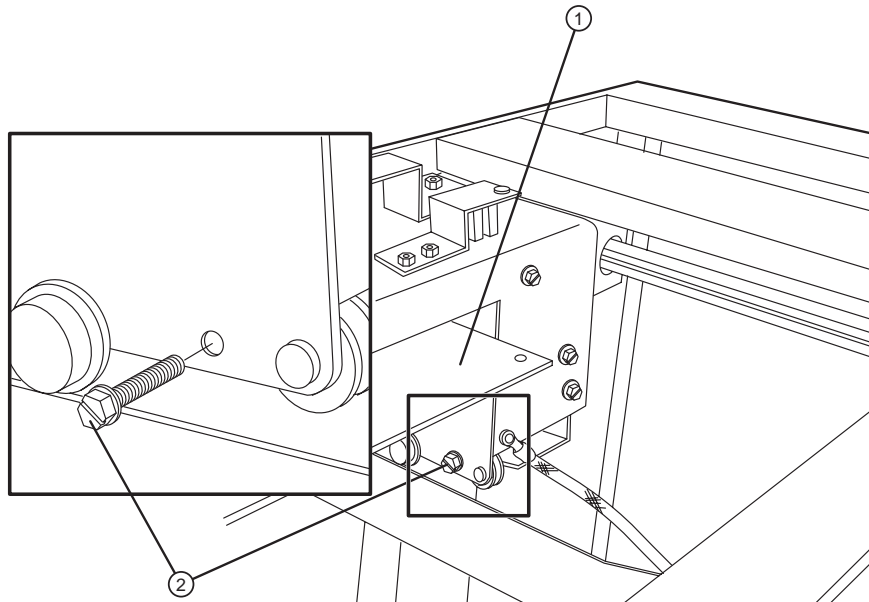

Figure 1-8 Removing the platen lockdown bolts.
①—Plastic plug (1 of 2).
- To unlock the buffer input platen, remove the two (2) lockdown bolts. The lockdown bolts are located on the left and right portion of the platen near the hinge screws. Refer to Figure 1-8.